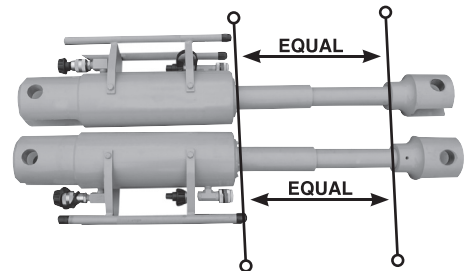

FIGURE 8
3. Operate the external power source in accordance with the operating instructions so that the cylinder rods are fully extended. If partial extension is required, ensure that the cylinder rods are of equal length (**FIGURE 8**).
3. Operate the external power source in accordance with the operating instructions so that the cylinder rods are fully retracted. If partial extension is required, ensure that the cylinder rods are of equal length. (**FIGURE 8**).